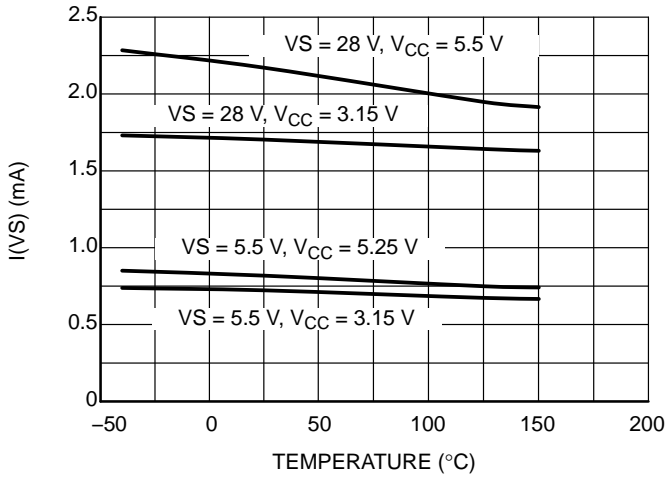

Figure 11. I(VS) vs. Temperature
6. Refer to Figure 11. I(VS) versus Temperature.